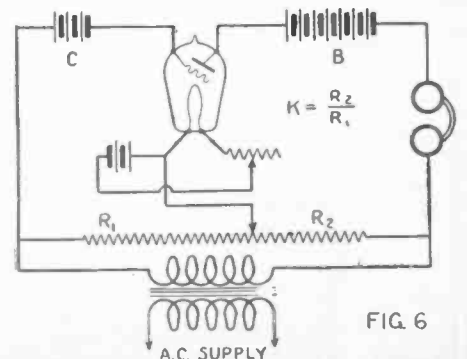

FIG. 6
The amplification factor or constant (K) is what is known as the ratio of the plate and grid variation which will produce an identical variation of the plate current. Thus the plate voltage change equals (K) times the voltage. In other words, it would take a change in the plate potential (K) times as large to cause the same variation in the plate current as a given grid potential. Thus if (K) is large, the tube is suitable as an amplifier. See Fig. 6 for connection. The slider of the potentiometer is adjusted until there is a minimum sound in the headset. The resistance R_2 divided by R_1 is the amplification factor.
Circuits showing how the internal impedance of a vacuum tube is measured. This test is easily made with the same instruments used in Fig. 6.